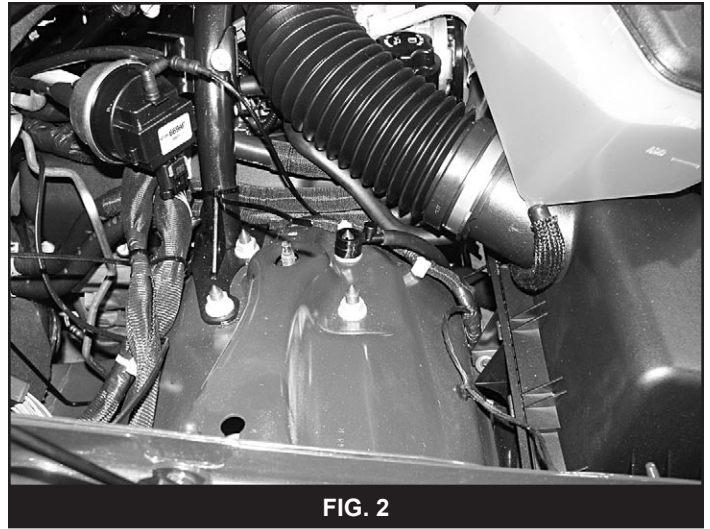

FIG. 2
5. On the passenger's side, remove the coolant reservoir mounting hardware and move the reservoir to expose the passenger's side strut nuts. Remove the four strut nuts and retaining. DO NOT remove the center stem nut, it is under extreme pressure. (Fig 2)